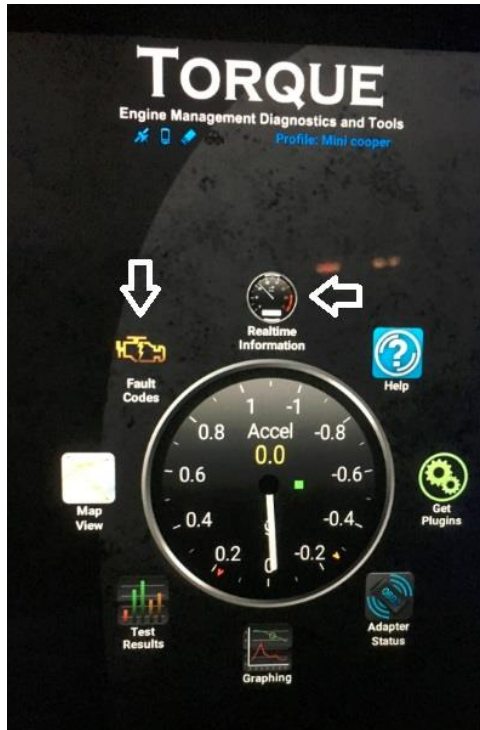

Figure 15, Torque Home Screen
2. From the torque home screen select the **Realtime Information** (small gauge above the large Acceleration gauge) on the home screen (see Figure 15).